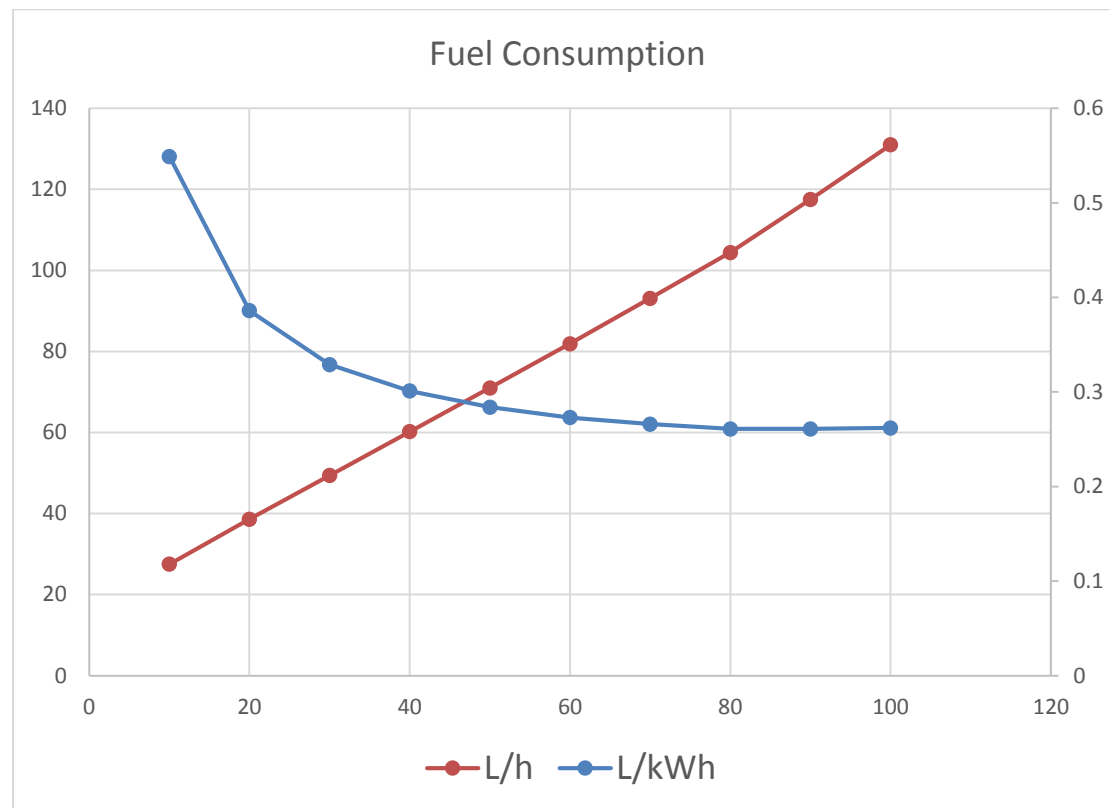

Figure 18 Fuel consumption chart
**Error! Reference source not found.** Table 1 shows sample fuel consumption figures for a 500kW generator, and Figure 18 shows the figures charted on independent axes.